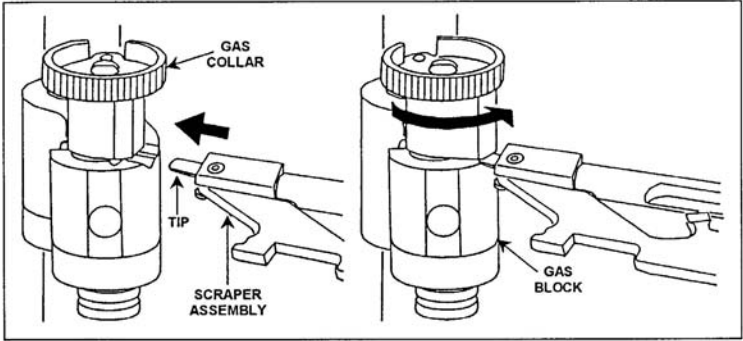

Figure 071-312-4025-9. Insertion of the scraper assembly
(3) Turn the collar counterclockwise and remove it (figure 071-312-4025-10).